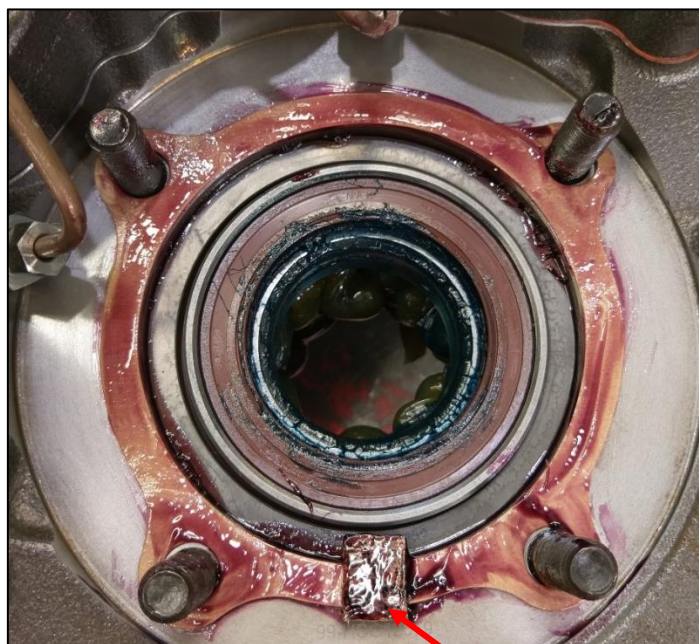

Fig. 19
-  Apply Loctite® 515™ to both sides of the gasket. See Fig. 19